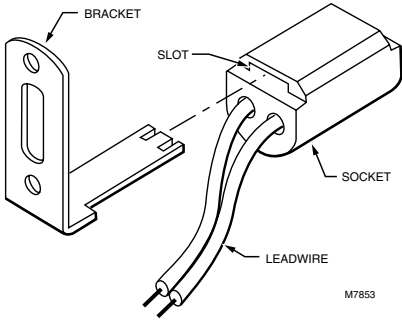

Fig. 3. Insert mounting bracket into socket slot.
- 2 Insert the mounting bracket into the socket slot (Fig. 3) as far as it will go.
- 2 Insert the mounting bracket into the slot on the socket (Fig. 3) as far as it will go.